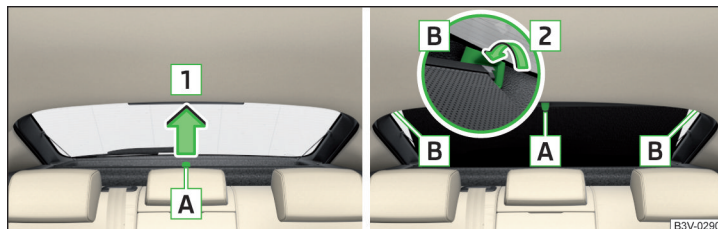

Fig. 79 Sun screen
- To **roll down**, pull the sunshade by the handle **A** in direction of arrow **1** and suspend in the magnetic holder **B** in the direction of arrow **2** » Fig. 79.